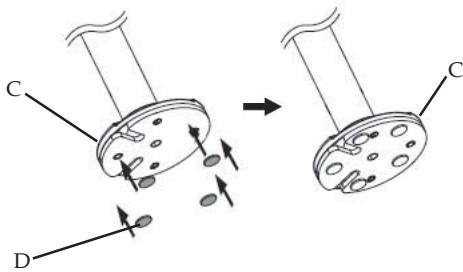

Figure 6
4. Place Rubber Pads (D) onto the bottom of the Grommet Plate (C), see Figure 6.